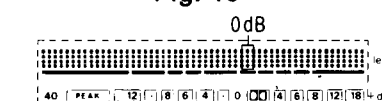

Fig. 11
6. Adjust VR701 so that the 0dB segment part is half lighted when the input of step 2 is applied. (See Fig. 11.)
7. Repeat the above steps (2), (3), (4), (5) and (6) and check that both -40dB and 0dB segment parts are half lighted.